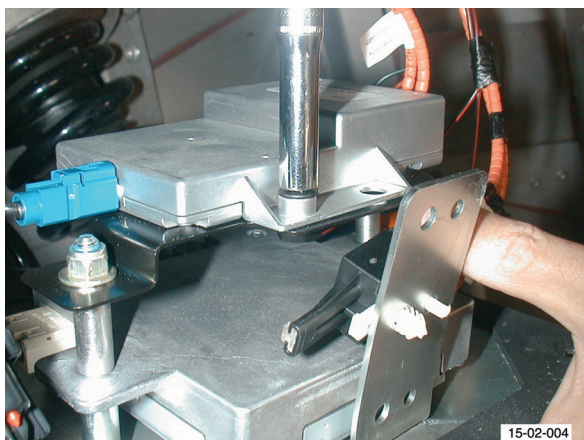

Fig. 2
3. Remove bolts (x2) from GPS tuner to bracket (see Fig. 2).